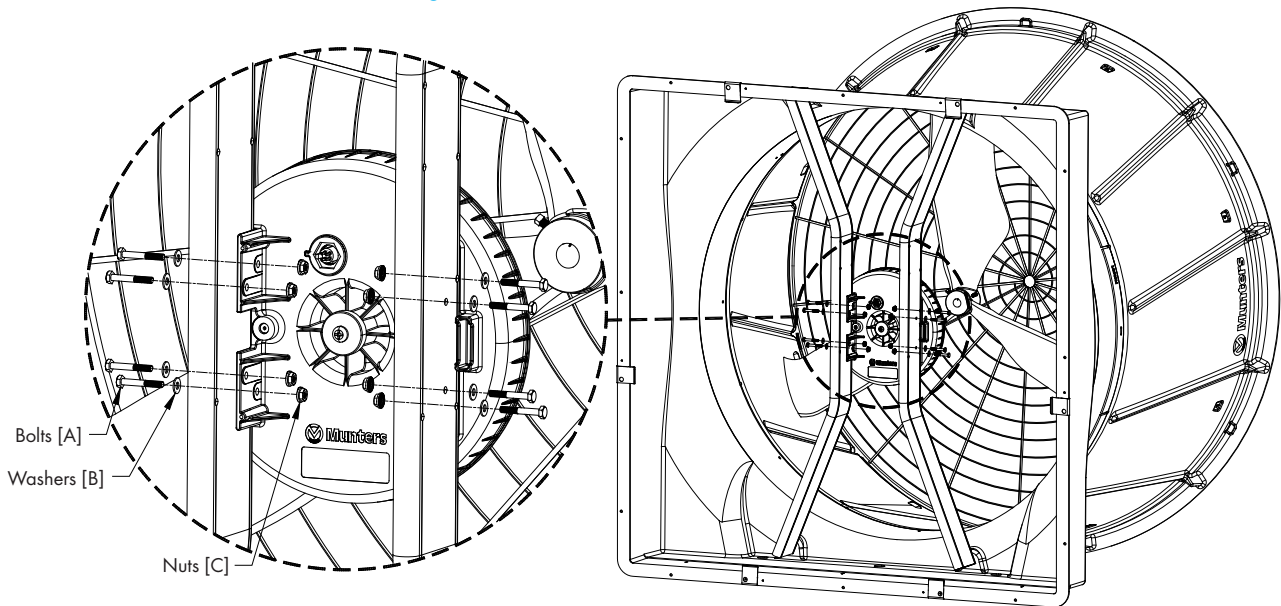

Figure 7
Carefully lift motor into place with the mounting flanges between the struts and secure in place using (8) Bolts [A], Washers [B] and Nuts [C]. See **Figure 7**.